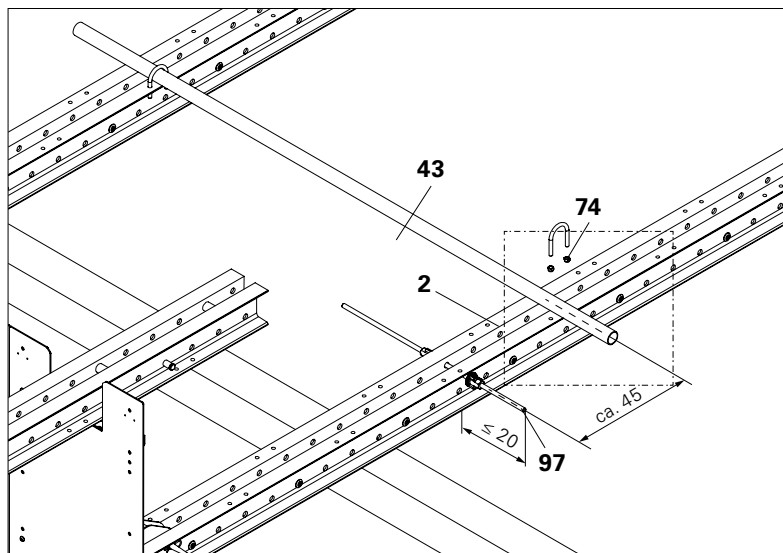

Fig. C1.16
1. Fix scaffold tube (43) to the Climbing Rails (2) using Clamp A64 M12 (74) and Nuts M12 (74.1). The position is specified in the planning documents. Lateral projection is 226 mm.
2. As transport locking device, screw one tie rod (97) into both climbing rails with cam nuts. Tie rod has a max. 20 cm projection on the outside.
- (Fig. C1.16 - C1.16a)